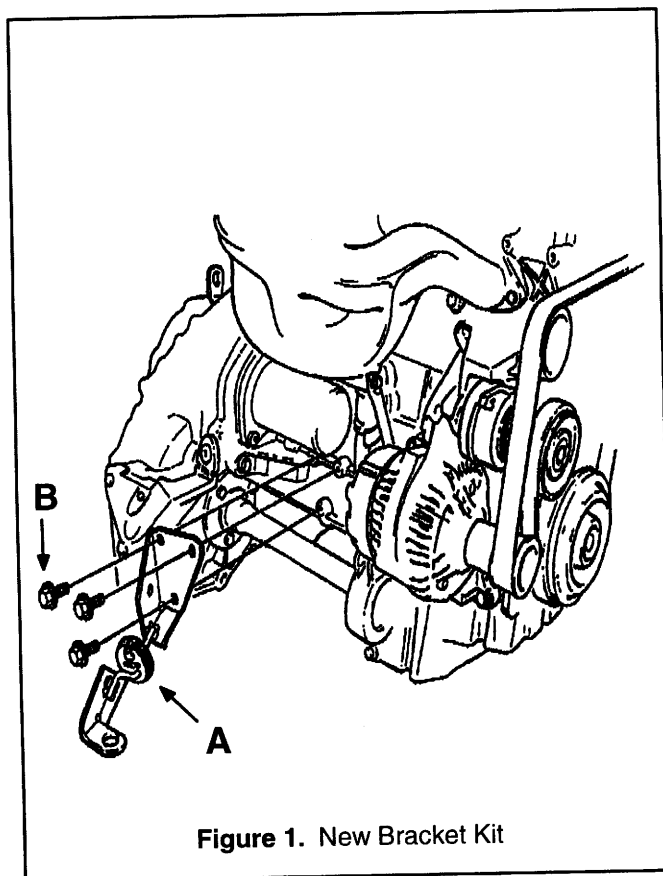

Figure 1. New Bracket Kit
1. Join the two brackets with the rubber suspension block. See Figure 1, item A.
4. Fit the new holder to the engine by means of three bolts. Do not tighten the bolts. See Figure 1, item B.